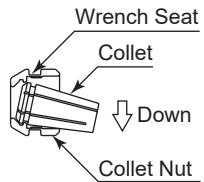

Fig. 22
- ② The collet and collet nut are secured by a groove in the collet and a flange in the collet nut. To remove the collet hold the collet nut in one hand and push diagonally down on the collet. The collet should be released (Fig. 22).
Press the collet in the collet nut by positioning the collet in the collet nut and pressing down on flat surface (Fig. 22).